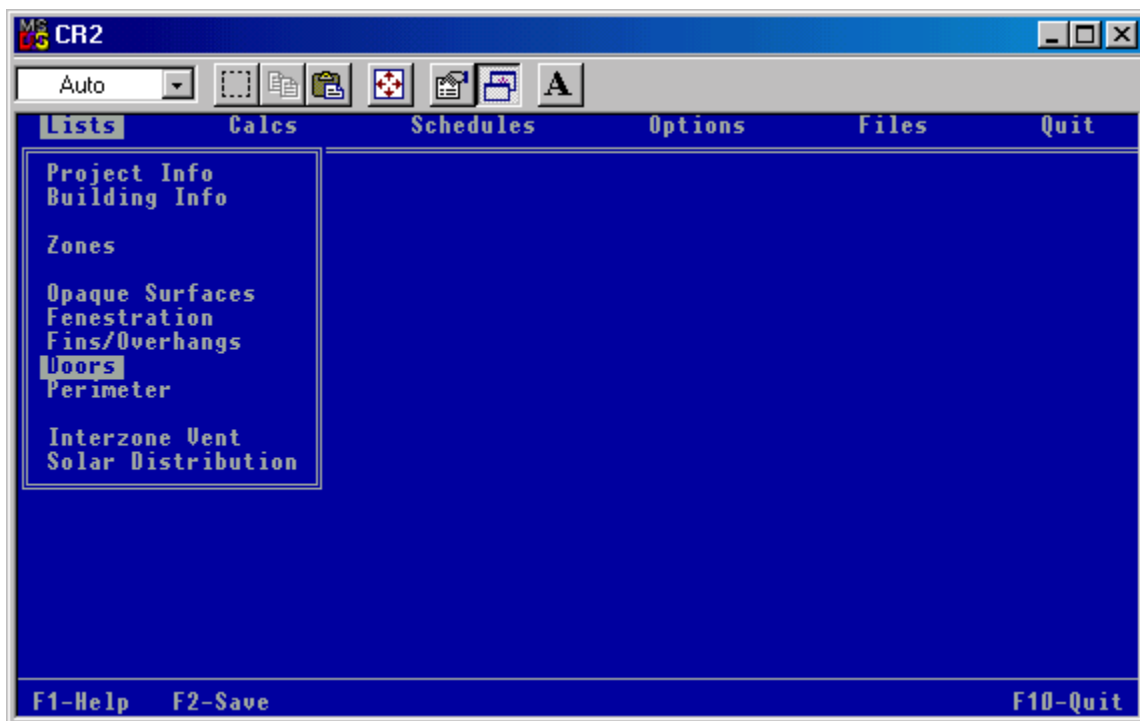

Figure 4-11. CALRES2 Main Menu Screen
- 2) In the CALRES2 Main Menu screen (Figure 4-11), use the right- or left-arrow key to scroll to “Quit” and press Enter.